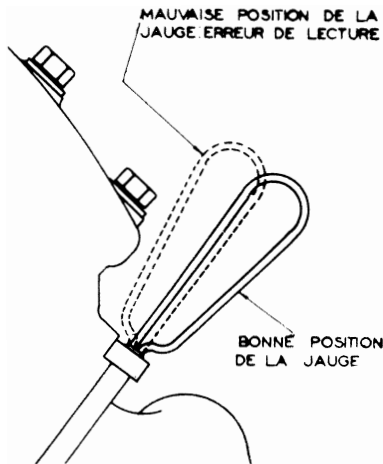

Fig. 25 -
- Before pulling out the dipstick, make sure it has been pushed down all the way down, with the loop located as shown on fig. 25.